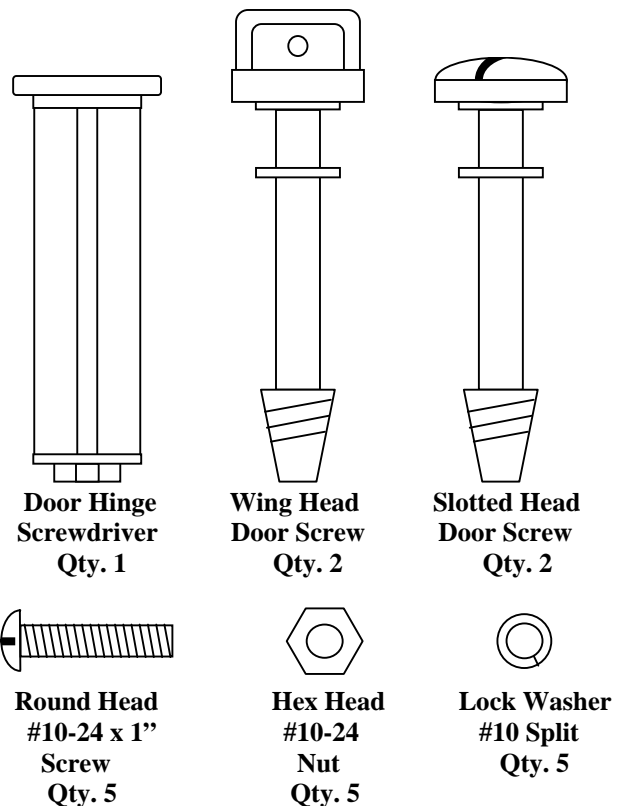

Figure 4-1A. Installation Hardware.
Mounting hardware is provided. See next page Figure 4-1A. Installation Hardware. The door is not attached when the unit is shipped to make it easier to install the mounting screws. After the unit is mounted the door should be attached.
3. Mount the receiver. Through the four deep mounting holes in corners of the receiver housing use quantity four #10-24 slotted round head screws 1" in length, four #10 lock washers and four #10-24 hex nuts. Lock washers should be used in front of hex nuts. (Five sets of mounting hardware are provided; one set is a spare). See Figure 4-1A, Installation Hardware on this page.
4. Attach door. Put two door screws in door. (Included in your TeleMotion unit are two pairs of door screws. One pair slotted and one pair wing head.) Pick the screws that are preferred, line up the slots in the door holes with the tapered part of the screw tip and firmly press the screws through the holes in the door until they snap through. (Lightly tapping them with a hard object will help to snap them in). Use the special door hinge screwdriver provided to screw in the door hinges to the main box. See Figure 4-1A, Installation Hardware on this page.